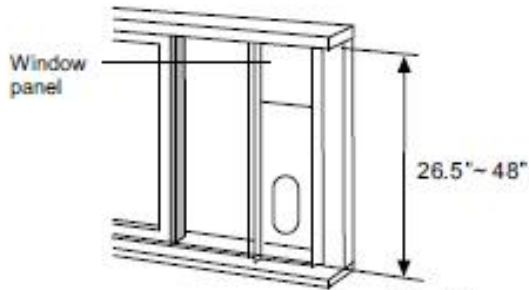

Fig. 14
- 2) Attach the window slider kit to the window stool. Adjust the length of the window slider kit according to the height of the window. Modify/cut the window slider kit if the height of the window is less than 27". Open the window sash and place the window slider kit on the window stool. See Fig. 14.